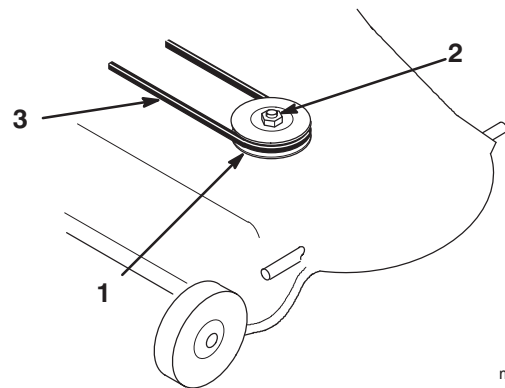

Figure 35
1. Pull on the mower idler assembly to release the belt tension and remove blade drive belt from right side pulley (Fig. 35).
2. Remove the nut and lock washer from right hand blade spindle (Fig. 35).
5. Secure it with previously removed lock washer and nut (Fig. 35).
7. Install the existing mower belt by rotating it onto the pulley (Fig. 35).